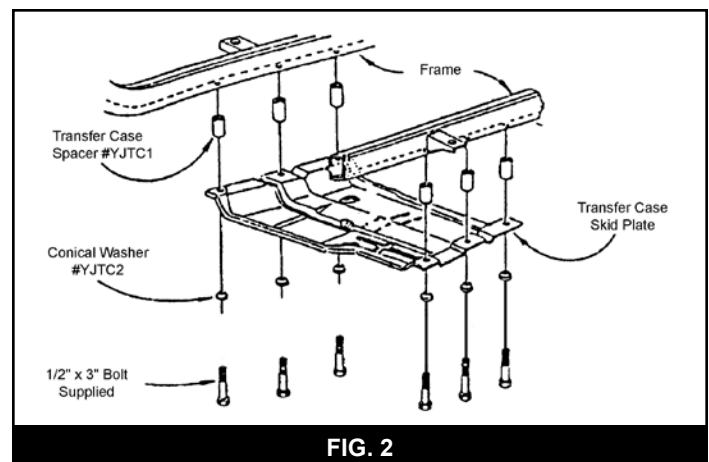

FIG. 2
- Note: Some models may experience interference between the transfer case and the skid pan. It will be necessary to trim the pan to eliminate contact. See figure 2.**